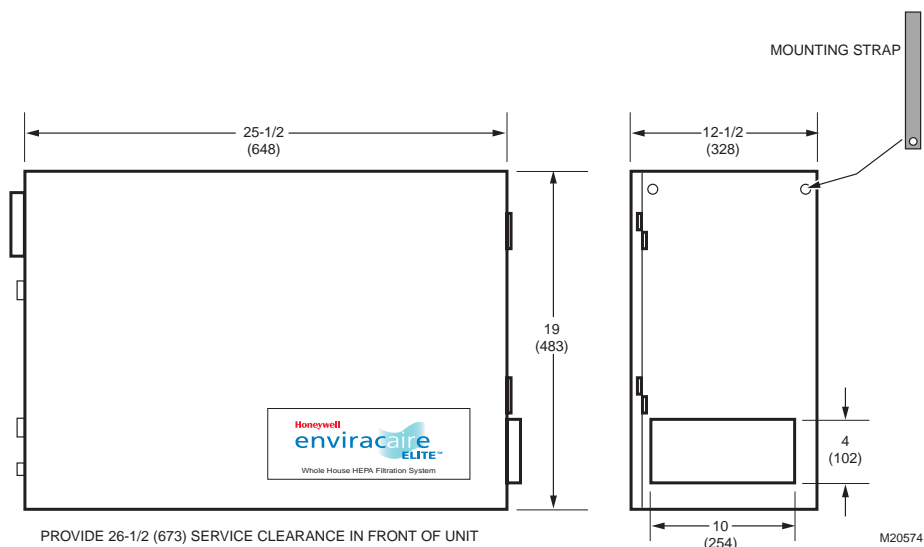

Fig. 1. F500 dimensions.
Dimensions: See Fig. 1.
3. Connect the HEPA System to the return air duct. See Fig. 1 and 2. Seal all duct joints with caulk, mastic, or high quality foil duct tape.